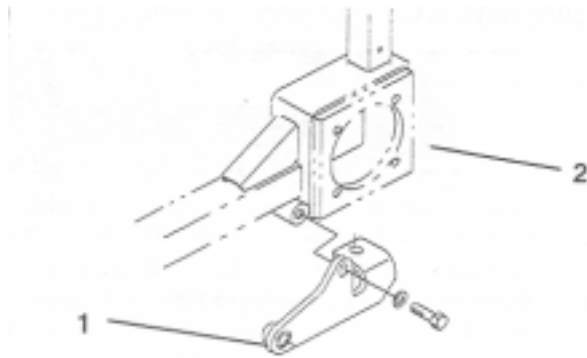

Figure 5
- Secure the left mounting bracket to the front boss and the bottom of the wheel motor mount with 2 cap screws (1/2 x 1-1/2 inch) and lock washers (1/2 inch) (Fig. 5).